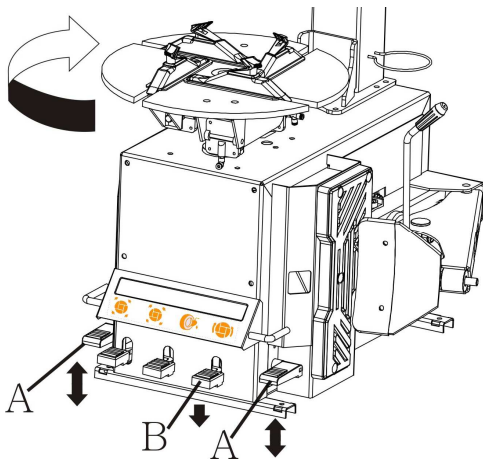

Fig.9
- Operation test: After power connected, press pedal A (Fig.9), turntable will turn clockwise. This test is very important.
- The lubricator 1 is used to add a certain amount of lubricant into gas for the moving parts in the cylinder and regulator. Depress pedal B(as fig.9),3~5 times, a drop of lubricant will drop into the cup in the regulator. If it doesn't happen, the adjusting screw 6 can be adjusted.